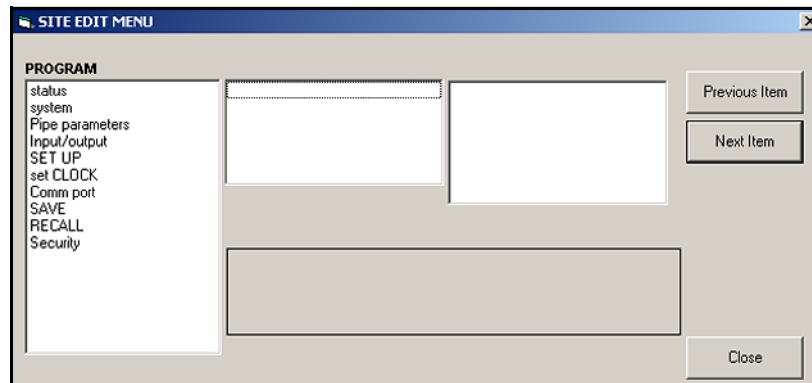

Figure 36: The Site Edit Menu
- To open a particular menu, double-click on that menu on the tree. For example, if you double-click on the *Site Edit Menu*, a screen similar to *Figure 36* below opens.